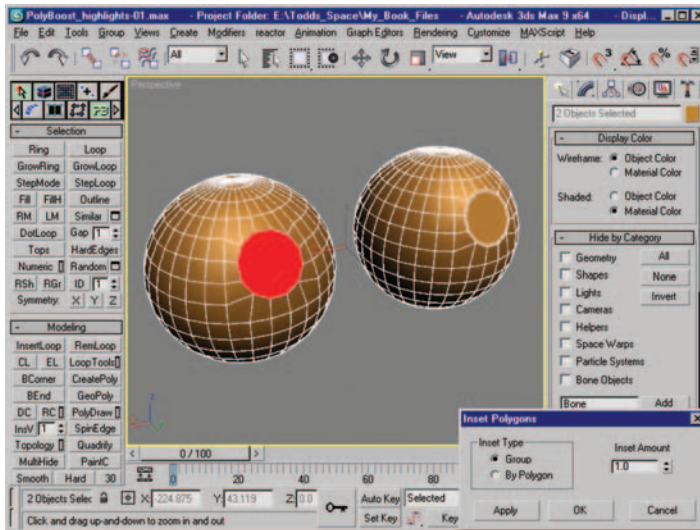

Figure 12.15 Polygon selection (left) and resulting mesh after insetting the selected polygon (right).
17. With the large circular polygon still selected (Figure 12.15, left), use the standard 3ds Max Inset settings dialog box with an Inset Amount of 1.0 (this value is based on the original
radius of the sphere being 42). What you are left with is a small secondary loop around the circular polygon (Figure 12.15, right).